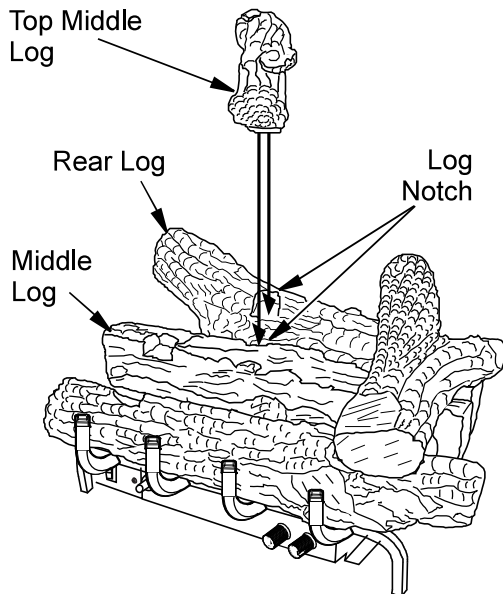

Figure 28 - Installing Middle Log
5. Place the top middle log onto the rear & middle logs as shown in **Figure 28**. Make sure to match up the shape on the bottom of the top middle log with the notches in rear and middle logs.